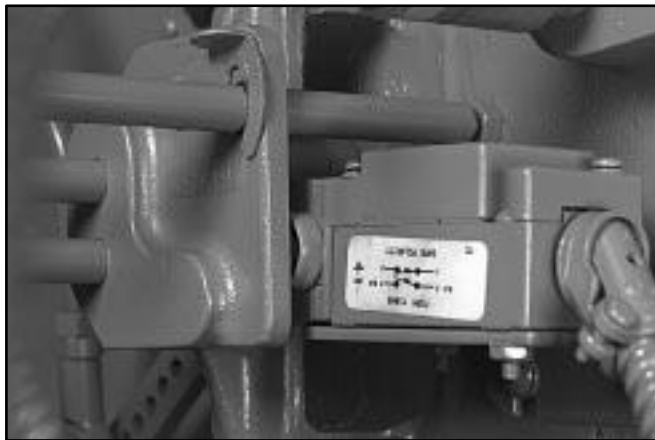

Figure: 5-10 Oil Drawer Switch Closed, Firing Oil
- If the burner is a combination fuel model, set the gas/oil switch to “gas.” Withdraw the oil burner gun and latch it in its rearward position (Figure 5-10).